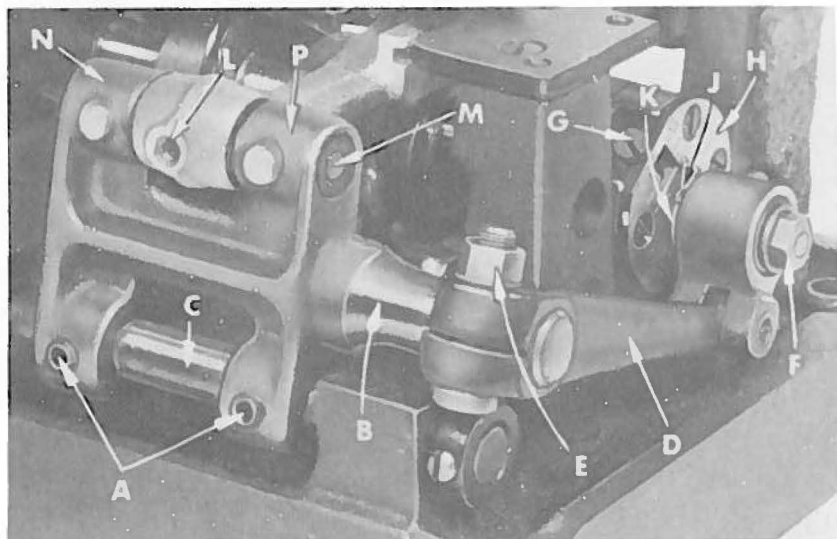

Fig. 11
Right to left adjustment can be made by loosening screws (A, Fig. 11) and slightly move feed rocker (B) on feed rocker shaft (C) as required, then retighten screws. Check to ensure that feed rocker arm (D) does not bind after adjustment.
Forward or rearward centering of feed dog can be accomplished by loosening nut (E, Fig. 11), move feed rocker (B) as required and retighten nut.
Set the stitch to required length. This is accomplished by loosening lock nut (F, Fig. 11)  $\frac{1}{2}$  turn, (it has a left hand thread) on the end of the stitch regulating stud and turning stitch adjusting screw (G) located under the left end of the cloth plate in the head of the mainshaft (H), which is marked with "L" and "S". Turning the screw in a clockwise direction shortens the stitch (moves stitch regulating stud toward the "S") and turning it in a counterclockwise direction lengthens the stitch (moves stitch regulator stud toward the "L"). Retighten the lock nut securely. To prevent destructive damage to the feed drive bearing, key screw (J) must engage the "U" shaped key slot in ferrule (K).
The feed rocker assembly may require lubrication and repair after years of operation. This can be accomplished as follows: Loosen nut (E, Fig. 11) and remove nut (F). Remove feed rocker arm (D) from machine by rocking slightly. Loosen screws (A) and remove stop collar on right end of shaft (C). Shaft can now be withdrawn. Loosen Allen screw (L) and remove shaft (M). Now repack bearings.
When packing bearings, parts must be clean and grease should be applied directly from the tube to avoid contamination. Tube of grease can be supplied under part No. 28604 P. Greased bearings are located at (N, P, Fig. 11). If grease sealed bearings are replaced, they should be pressed in flush with the casting. To assemble, start tapered end of shafts first, twisting slightly when entering the grease seals to prevent damage. Check for proper adjustment of feed dog as described under the "Feed Dog Settings". Also check to see that there is no binding at any point.